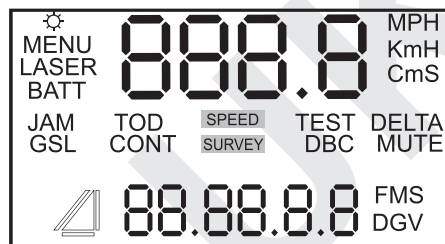

Figure 20: Display Integrity Test
2. Press the TEST OPTIONS button. The display should look like Figure 20.